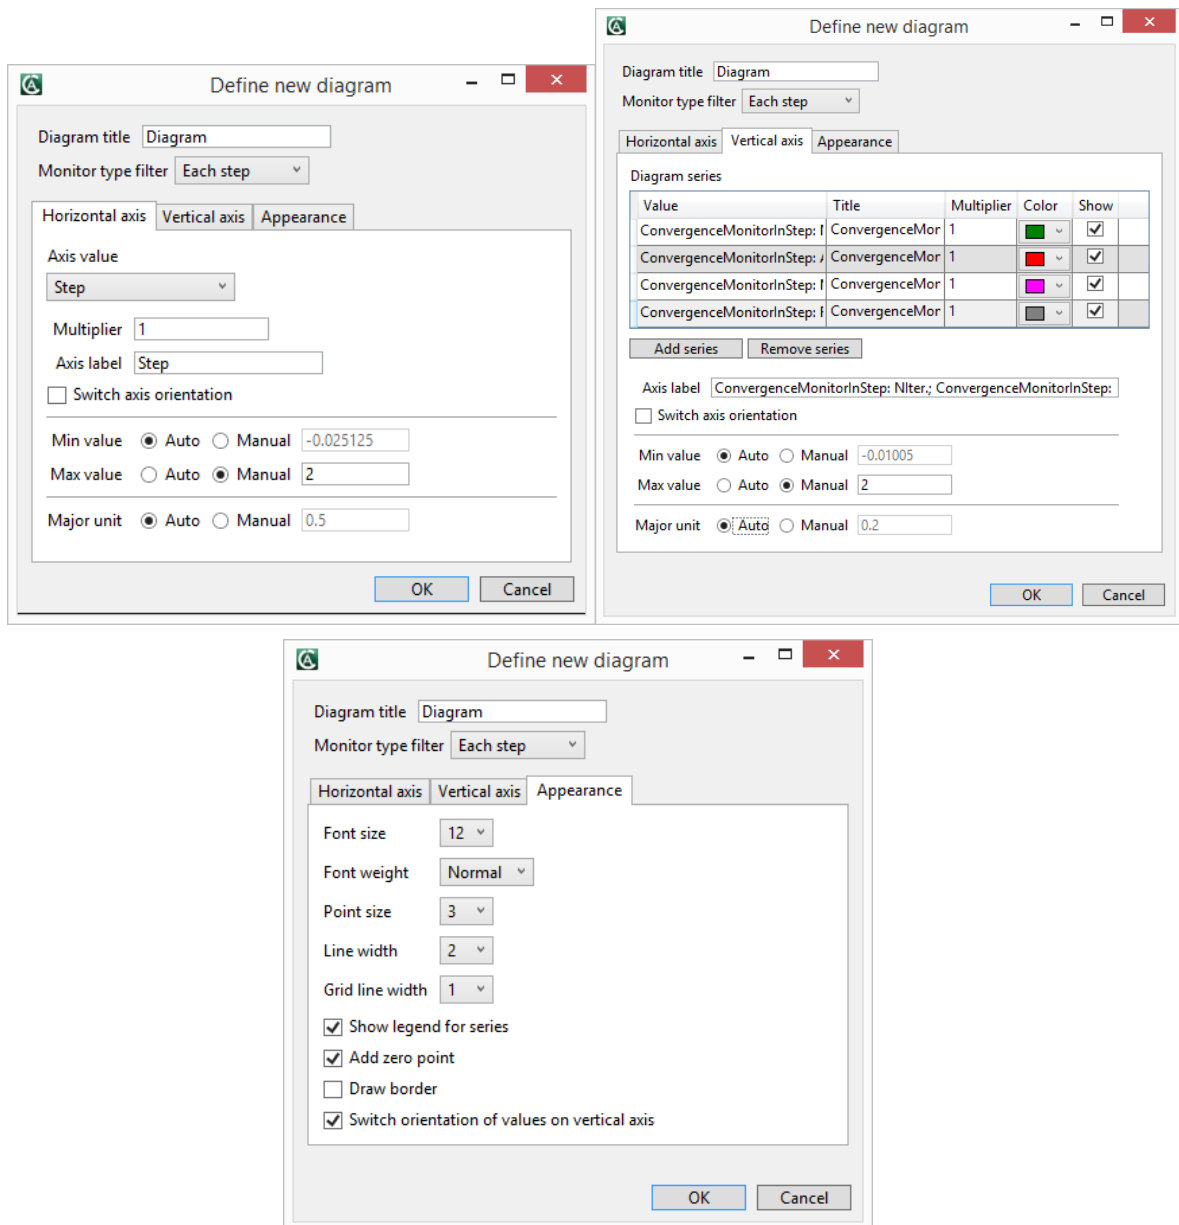

**Fig. 3-18 Monitoring of convergence criteria. Full range - left; selected range – right**
Monitoring of convergence criteria is shown in Fig. 3-18. Four solution errors serve to check following criteria: (1) displacement increment, (2) normalized residual force, (3) absolute residual force, (4) energy dissipation.